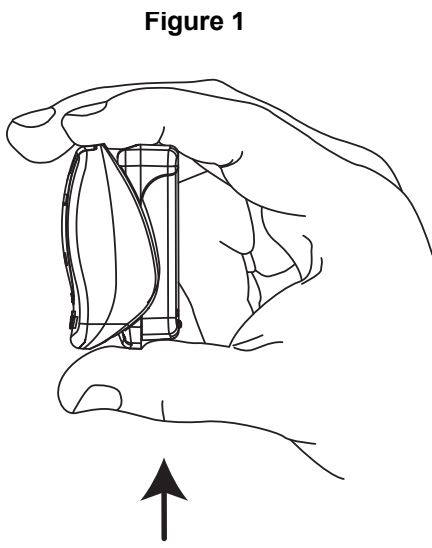

Figure 1
- Hold the device as shown in **Figure 1**. To release the device's battery tray, press upward and then pull outward slightly with the thumb.